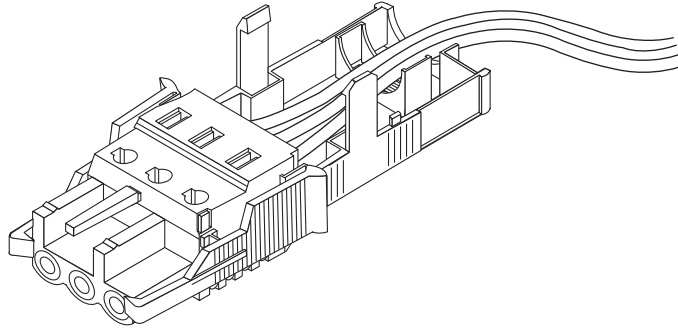

FIGURE 4-7 Routing the Wires Out of the Strain Relief Housing
2. Route the three wires coming from the DC power source through the opening at the end of the bottom portion of the strain relief housing (see FIGURE 4-7).